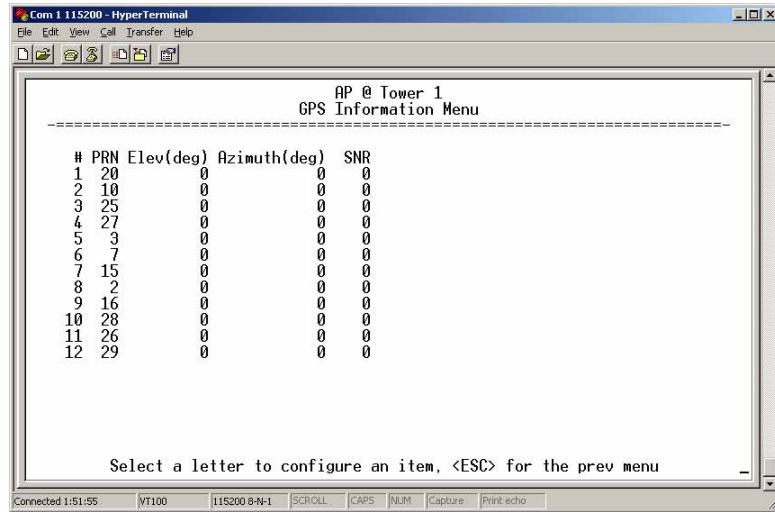

Figure 3-78. GPS Information Menu
- ☞ **GPS Information** □ Shows data about the individual satellites being received, including the Pseudo-Random Noise (PRN) code (a unique bit stream for each satellite), the satellite □ s elevation (in degrees), azimuth (in degrees), and the signal-to-noise ratio of the carrier signal (SNR). Figure 3-78 on Page 108 shows a layout example for this screen.